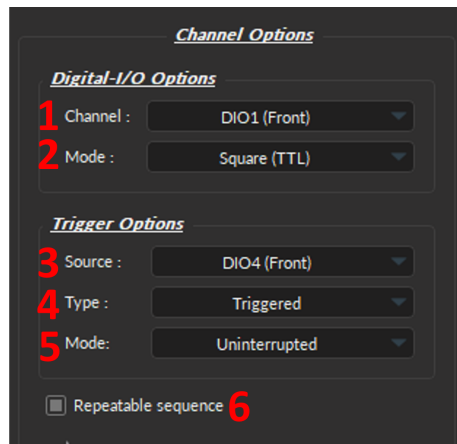
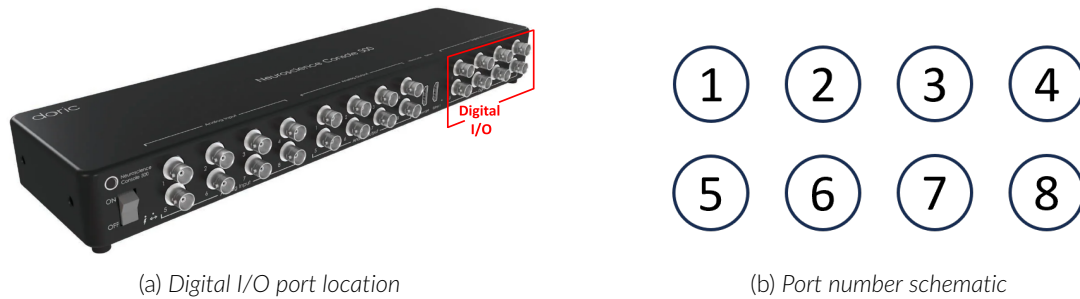
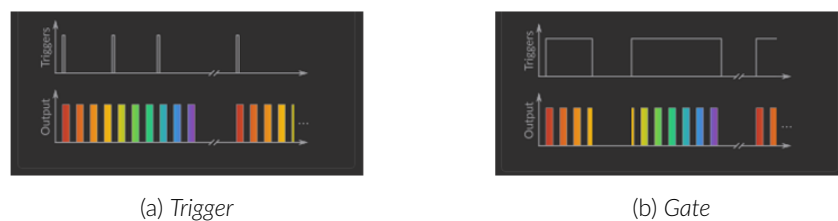

Figure 16.31: *Digital I/O, Channel Options*
Figure 16.32: NC500 channel ports
Figure 16.34: Trigger Options Modes
The *Channel(s) Configuration* window for the **Digital I/O** Channel is divided into three sections (Fig. 16.34): (1) the **Channel Options** (Section 16.6.1.1), (2) the **Sequence Options** & (3) **Preview** (both treated in Section 16.6.1.2).
1. The **Channel** (Fig 16.31, 1) identifies the port on the NC500 assigned to the newly created Digital I/O. Each numbered channel on the physical console corresponds to the same number of digital channels within the software (Fig. 16.32).
2. The **Mode** (Fig 16.31, 2) identifies the type of signal sent (for output channels) or the way the signal is measured (for input channels). Three modes are available:
3. The **Source** trigger option (Fig 16.31, 3) allows the choice of a **Manual Trigger** (activated by a user) or an **Input** trigger, coming from a **Digital I/O** channel set in input mode.
4. The **Type** (Fig 16.31, 4) defines the type of trigger that is used to start/stop a sequence. The **Triggered** type can start and stop a sequence at a rising edge while the **Gated** type can start the sequence at a rising edge and stop it at a falling edge (Fig. 16.34). A more refined interaction of the trigger with the defined sequence can be set up using the **Mode** field. Not all Trigger Type are available for each combination of Trigger Mode and Repeatability. The different combinations are shown in Figure 16.35.
5. The **Mode** (Fig 16.31, 5) field defines how the trigger activates a sequence. Each mode is not compatible with each combination of trigger type and repeatability. Figure 16.35 shows the different available combinations for the different Trigger Modes. Four Modes are available and are the following:
6. The **Repeatable sequence** check-box (Fig 16.31, 6), when selected, allows a sequence to be repeated. Not all modes and trigger types can be repeated. Please refer to the Fig. 16.35 to know the repeatable sequence combinations.
The parameters contained in the **Sequence Options** depend on the **Channel Mode** (selected in **Channel Options**, Fig. 16.31), as following:
- The **CW (Continuous Wave)** channel mode (Fig. 16.34) allows the creation of a continuous TTL pulse sequence. The following elements appear in the **Sequence Options** box.
3. The **Source** trigger option (Fig 16.43, 3) allows the choice of a **Manual Trigger** (activated by using the **Record/Live** buttons) or an **Input** trigger, coming from a **Digital I/O** channel set in input mode (Fig. 16.32).